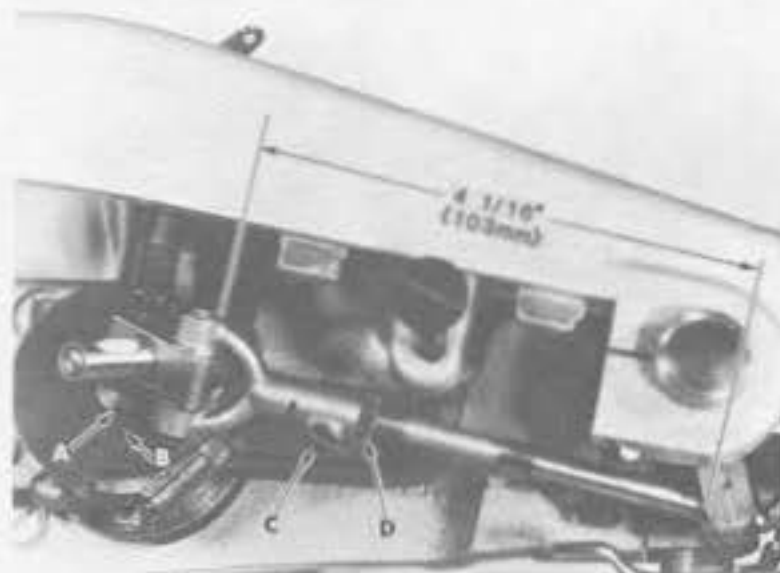
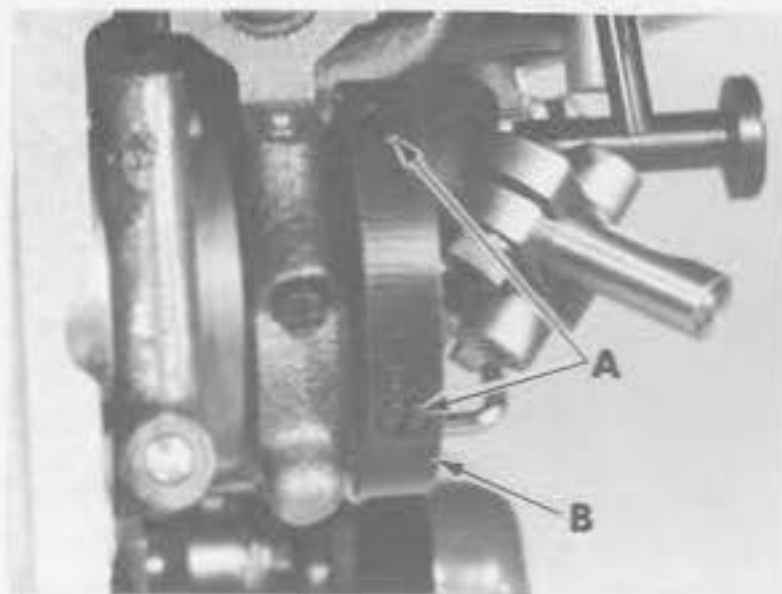

Fig. 6
Fig. 7
In the left end of the mainshaft (A, Fig. 6) is a "V" groove and on the looper crank (B) is a timing mark.
Turn the handwheel in operating direction until the "V" groove in the mainshaft is at bottom. Loosen two screws (A, Fig. 7) in the looper crank (B) and position the crank so that the timing mark lines up with the right edge of the "V" groove in the mainshaft (see Fig. 6).
Hold crank (B, Fig. 7) against needle drive eccentric and tighten screws in looper crank securely.
The approximate distance from the back side of the front ball to the near edge of the inside of link pin should be $4 \frac{1}{16}$ inches (103.2mm). See Fig. 6. This is merely an approximate setting.
Again rotate the handwheel in operating direction until the long prong of the looper is over center line of spot or scarf of needle. Loosen the looper yoke clamp screw (C, Fig. 6) and loosen lock nut (D), on looper carrier shaft. Roll the looper shaft (using the flat) until the long prong of the looper just clears the spot on scarf of the needle. Hold the looper carrier shaft from moving and tighten lock nut securely. Tighten yoke clamp screw securely. Check the distance from the right side of the long prong (A, Fig. 8) on the looper to the left end of needle eye. The distance should be approximately $\frac{3}{32}$ inch (2.4mm), as shown in (Fig. 8).
If adjustment is required, loosen set screw (A, Fig.7) and turn crank (B) slightly as required until this condition is obtained.
Rotate handwheel in operating direction to ensure needle enters approximately equal distance between the prongs of looper (see Fig.11). If adjustment is required, loosen clamp screw (A, Fig.9) and carefully rotate looper eccentric sleeve (B, Fig.8) until this condition is obtained, being careful not to move eccentric sleeve left or right. Tighten clamp screw securely. NOTE: "LOOPER TIMING AND ADJUSTMENT" has been a coordination of settings basically involving looper carrier, driving crank and looper eccentric sleeve. Different materials or different threads used may require a slight variation of settings. If necessary, only roll the looper to the needle slightly by loosening screw (C, Fig.6) and nut (D) permitting rotation of looper carrier to achieve desired conditions... retighten nut and screw.